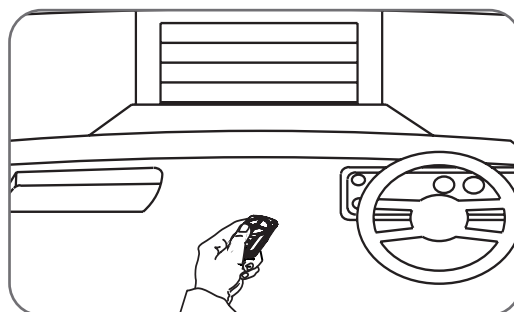

Fig.7.1.1
- Press the programmed transmitter button until your door begins to move (usually 2 seconds). Make sure you can see the door when you use the transmitter (**Fig 7.1.1**).